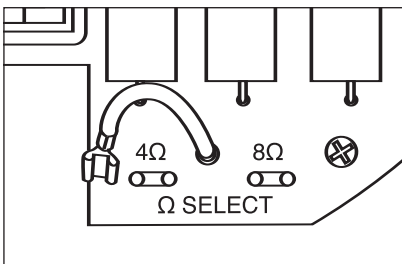

Figure 15 Setting the Impedance jumper.
2. Check the position of the Impedance jumper on the crossover PC board. Choose the 4 ohm position if you are using an amplifier capable of driving a 4 ohm load and you have only one pair of speakers connected. Otherwise, use the 8 ohm position **(See Figure 15)**.